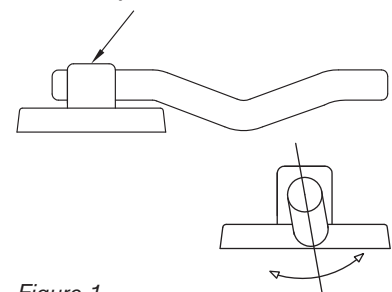

Figure 1
4. If the above steps fail to stop a minor leak, you may adjust the door latch using the supplied 1/8" Allen wrench (hex key). See *Figure 1* at right for how to adjust the door latch.